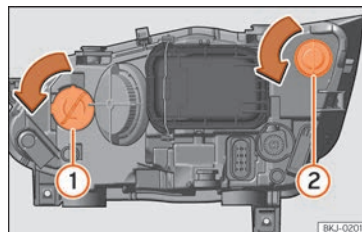

Fig. 106 In the engine compartment: turn signal light bulb ① and DRL (daytime running light) bulb ②.
- Turn the bulb holder » **Fig. 106 ①** or **②** to the left and pull.